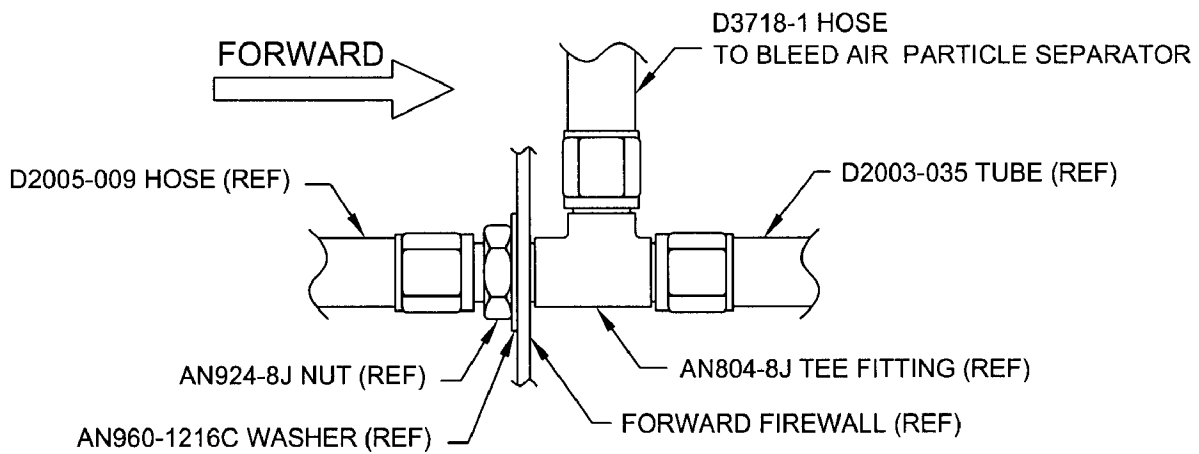

FIGURE 1. TEE FITTING RELOCATION
1. The existing AN804-8J tee fitting can be moved to the forward side of the forward firewall as shown in Figure 1.
2. The D3718-1 hose can be installed off the AN804-8J tee fitting and connected to the bleed air particle separator as shown in Figure 1.
Refer to sheet 2 for Figures 1, 2 and 3.